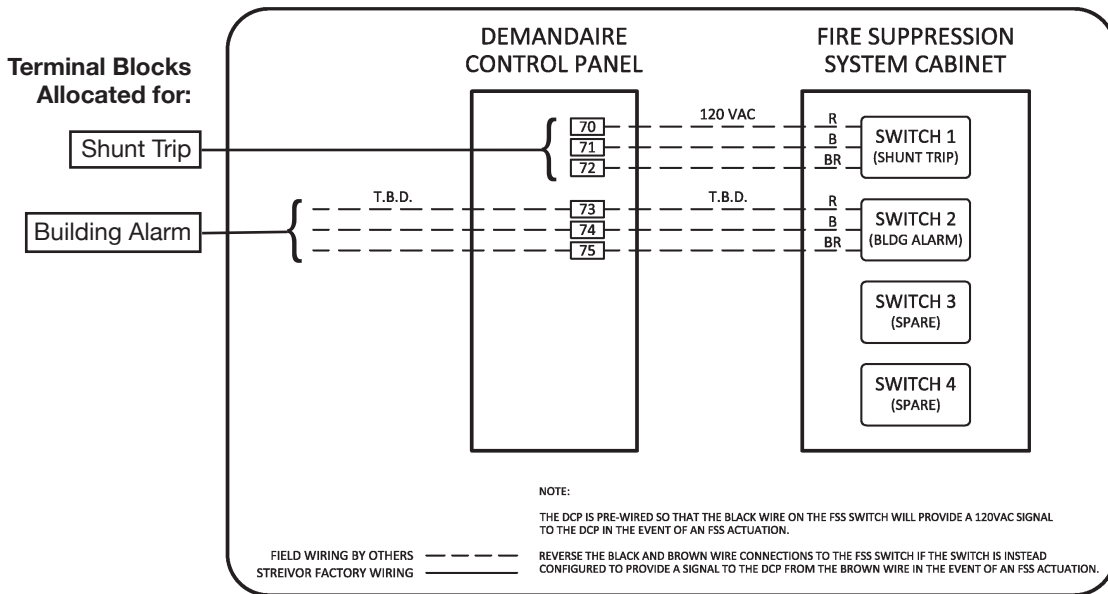

FIGURE 8A: Fire Suppression System (FSS) Switch Circuits
- Locate the FSS switch in the FSS control panel. The FSS switch (also referred to as microswitch) shall have one set of single-pole-double-throw contacts (*Figure 8A*).
- Connect the terminal blocks in the control panel to the FSS Switch(es) (*Figure 8A*). The building alarm circuit must be connected to the switch with lugs (*Figure 8B*).
- Connect the building alarm circuit to the terminal blocks designated for the building alarm in the DCP (*Figure 8A*).